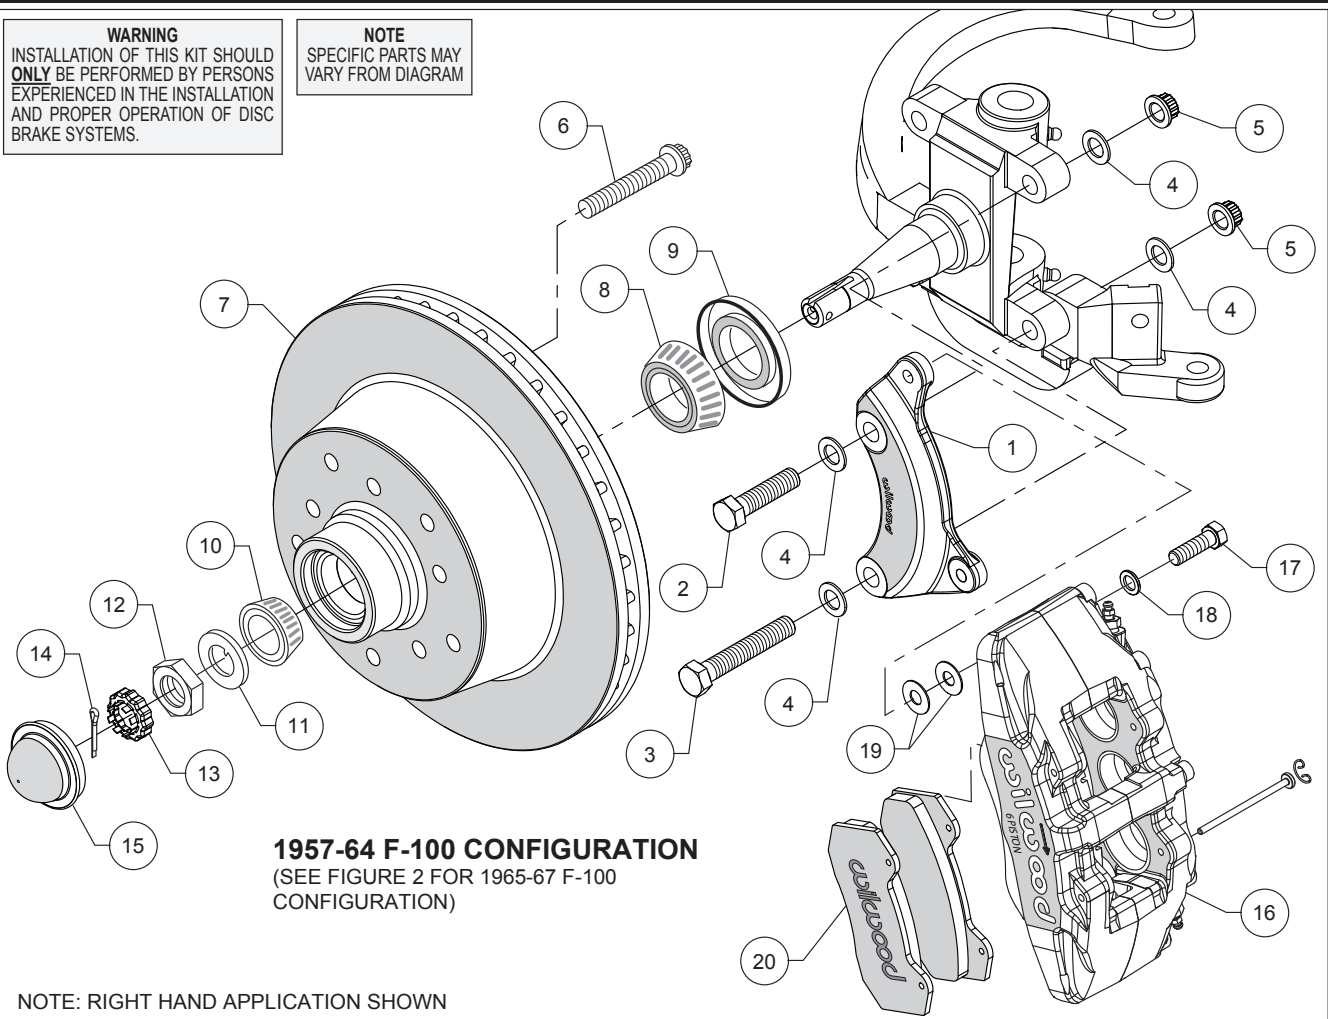

Figure 1. Typical Installation Configuration, Model Years 1957-1964
**Assembly Instructions** (numbers in parenthesis refer to the parts list, on the preceding page and Figure 1).
- Orient the caliper mount bracket (1) as shown in Figure 1 or 2, and Photo 1, and install using bolts (2 and 3), washers (4) and nuts (5). Temporarily tighten the mounting bolts. **NOTE:** The bracket must fit squarely against the mount bosses on the upright. Inspect for interference from casting irregularities, machining ridges, burrs, etc. Torque lock nuts to 65 ft-lb.
- Install wheel studs (6) into the hub (7), Photo 2. Apply red Loctite® 271 to the threads and torque to 77 ft-lb. **NOTE:** There are two five lug patterns in the hub (5 x 4.50 and 5 x 5.50). Ensure the correct hub stud pattern is being used to fit the wheel application.
- Pack the large inner bearing cone (8) with high temperature disc brake bearing grease (available from your local auto parts store) and install into the backside of the hub (7), Photo 3.
- Install the grease seal (9, years 1957-1964) or (9A, years 1965-1967) by pressing into the backside of the hub (7), flush with the end of the hub.
•Press the dust cap (15) into the hub (7), Photo 6. **NOTE:** Do not hammer center of cap. Install using outer flange only.
•**NOTE:** This kit contains distinct right and left hand calipers that must be mounted in a specific direction, as described below. Mount the caliper (16) onto the caliper mounting bracket (1) using bolts (17) and washers (18), as shown in Figure 1 or 2. Initially place two .035" thick shims (19) on each bolt between the caliper and the bracket, Photo 7. Ensure that the caliper is mounted so the largest pistons are at the rotor exit end of the caliper, in relation to the direction of rotor rotation. Temporarily tighten the mounting bolts and view the rotor (7) through the top opening of the caliper. The rotor should be centered in the caliper, Photo 8. If not, adjust by adding or subtracting shims (19) between the bracket and the caliper. Always use the same amount of shims on each of the two mounting bolts. If necessary place spare shims between washer (18) and caliper mounting ear to achieve the proper clinch nut engagement. Once the caliper alignment and clinch nut engagement are correct, remove the caliper.
•Remove the two pad retaining pins from the caliper (16) by carefully popping out the pin retaining clips and sliding out the pins. Insert the brake pads (20) into the caliper from the bottom, Figure 1 or 2, and Photo 9, with the friction material facing the rotor. Secure the brake pads in place with the pad retaining pins and clips, Photo 10. Reinstall the caliper onto the caliper mounting bracket. Apply red *Loctite*® 271 to bolt threads (17), and torque to 40 ft-lb.